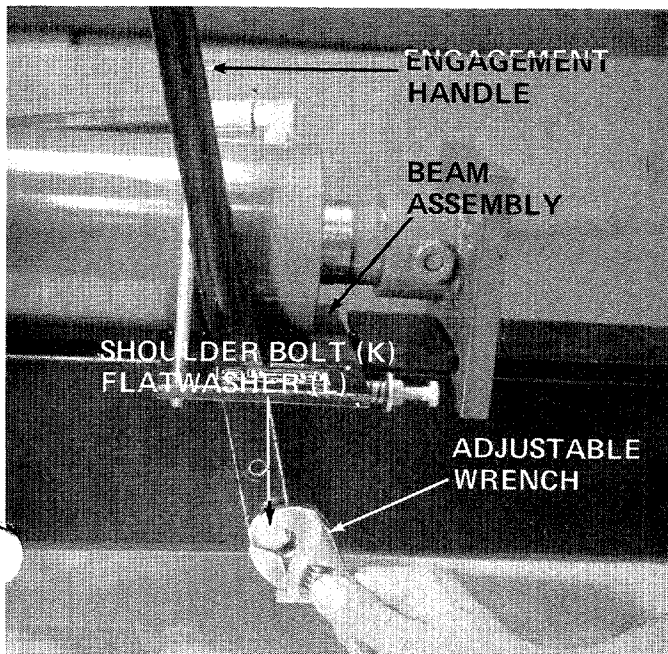

FIGURE 10
10. Assemble the engagement handle to the beam assembly using shoulder bolt (K) and flat washer (L). A 3/4" wrench is required. See figure 10.